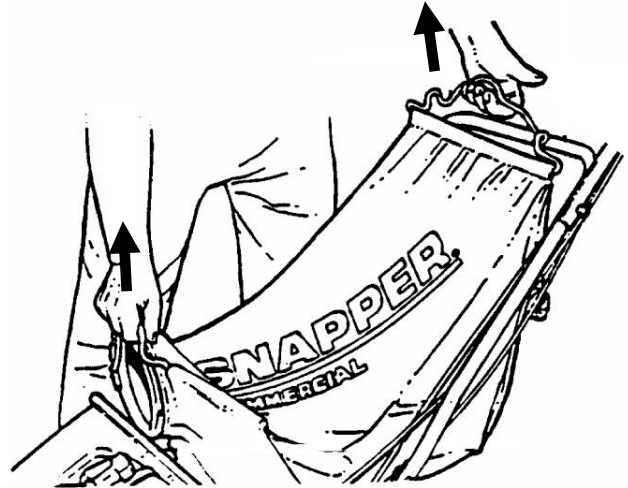

FIGURE 2.13
1. Grasp bag connector and bag handle as shown. See Figure 2.13.